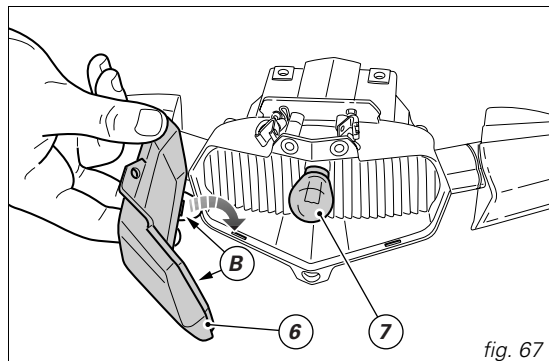

fig. 67
Remove bulb (7) by pushing it and turning counter clockwise, replace it (fig. 67).